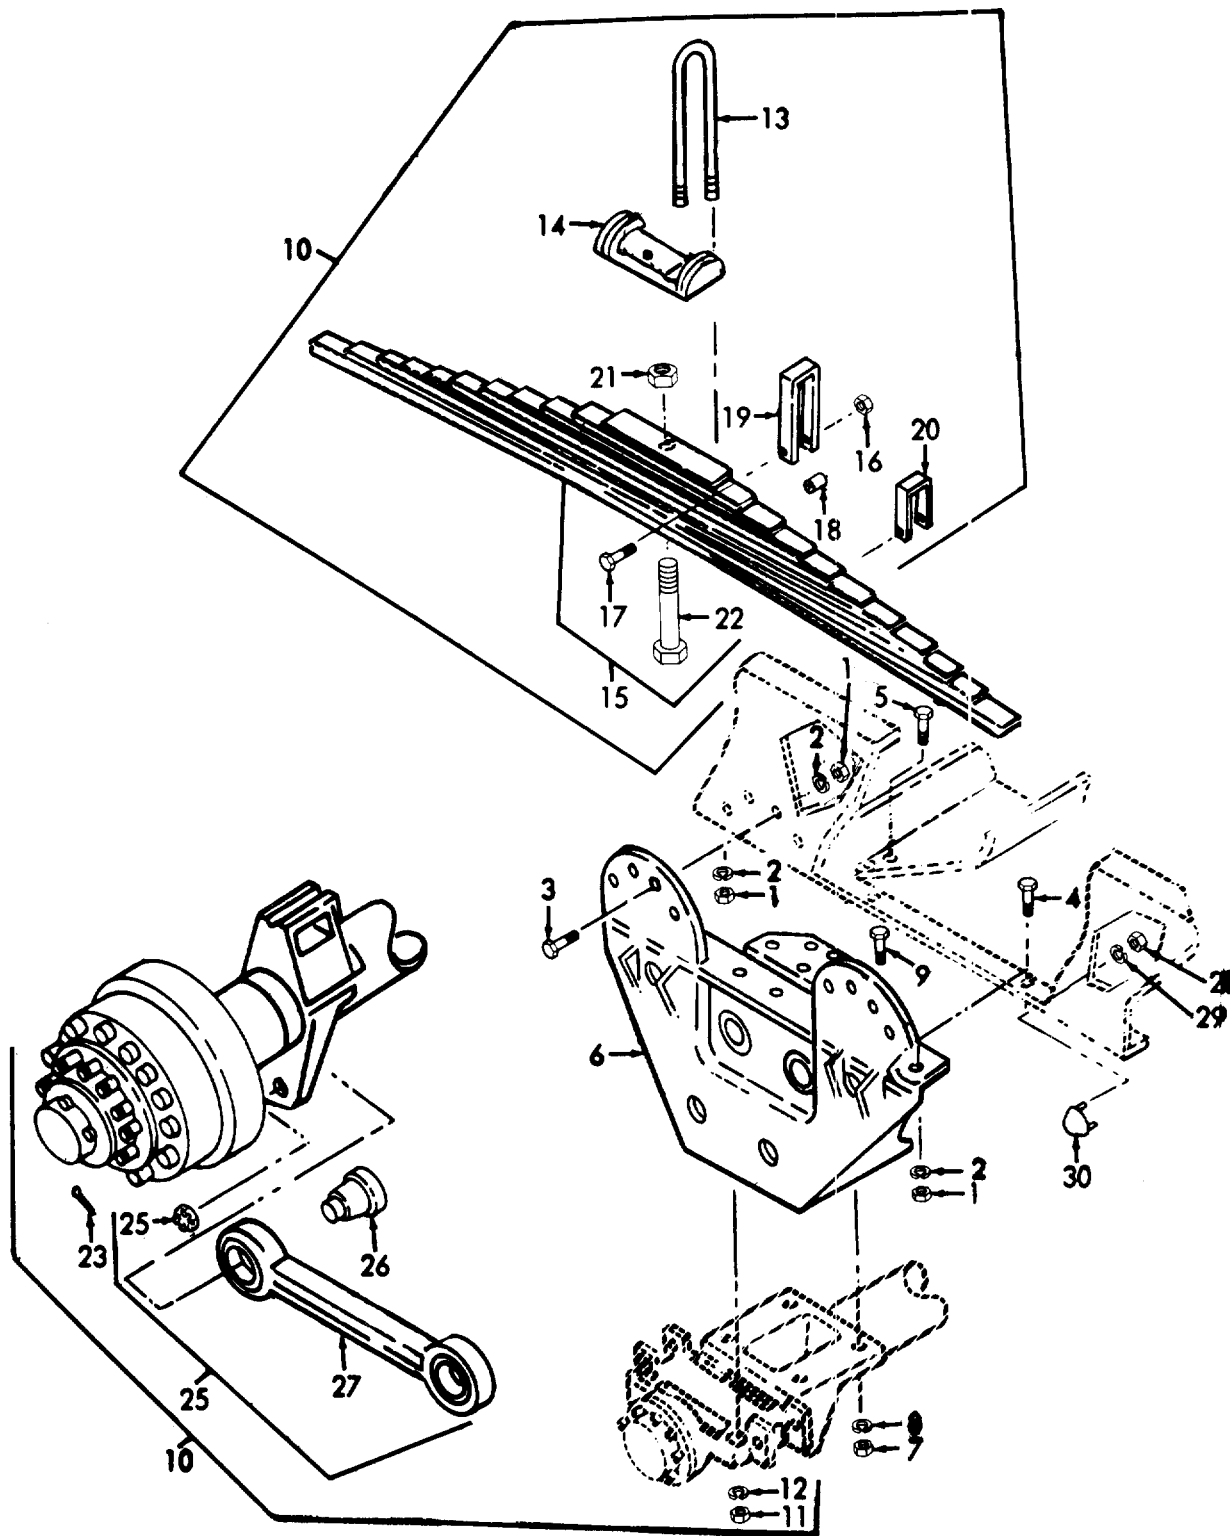

Figure 19-9. Axle Assembly.
- (1) Remove the wheels (para. 19-4).
- (2) Remove the four nuts (2, figure 19-9) and two U-bolts (13) that secure the springs saddle (15), and remove the spring saddle.
- (3) Loosen two clamping screws and remove springs.
- (1) Raise the frame with a suitable lifting device and block securely. Wheels should be free of the ground.
- (2) Disconnect the brake lines from the axle assembly.
- (3) Remove the forty-four bolts (1 through 5, figure 19-9), washers and nuts that secure the frame suspension to the frame and remove the frame suspension, axle, and wheels as a unit.
## LEGEND FOR FIGURE 19-9:
- (1) Remove grease and dirt with approved cleaning solvent and dry thoroughly.
- (2) Inspect for damage and defects and replace any defective parts as necessary.
c. Installation (Refer to figure 19-9).
- (1) Secure the frame suspension, axle, and wheels unit to the frame with the forty-four bolts, washers, and nuts (1 through 5).
- (2) Connect the brake lines to the axle.
- (3) Remove blocking and lower the wheels to the ground.
- (1) Raise the shop set with a suitable lifting device until the wheels are off the ground.
- (2) Remove the two cotter pins and two nuts (24 and 26, figure 19-9) that secure the torque rod (25) to the frame support bracket.
- (3) Remove the other five torque rods in a similar manner.